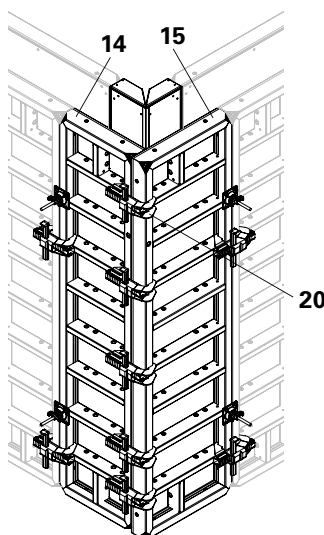

Fig. A7.03
- Panel TR 60 (14)
- Panel TR 72 (15)
- Alignment Coupler BFD (20) (5 x BFD for h = 2.70 m) (Fig. A7.03)